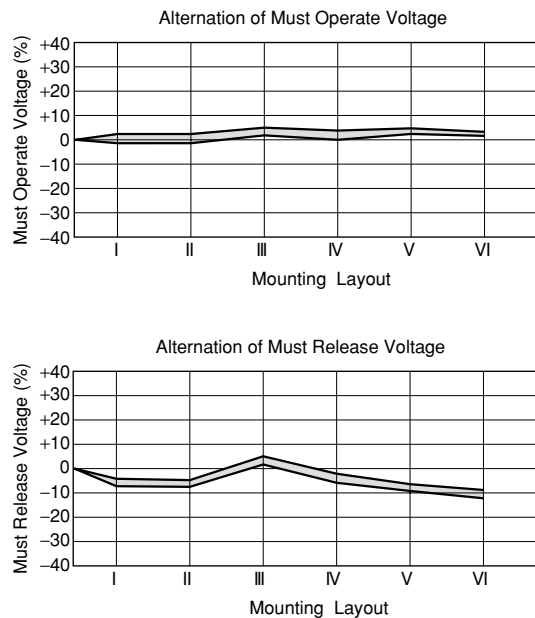

Figure 3.6 Magnetic Interference
This section describes changes in the operate voltage caused by mutual magnetic interference when several relays are closely mounted on a printed circuit board (PCB). Figure 3.6 (1) shows the distance among the relays mounted on the PCB. As shown, the pin pitch of each relay is 2.54 mm. Figure 3.6 (2) shows the relay that is subject to interference. In this figure, the hatched relay shown in the center of each relay arrangement is subject to interference, and the surrounding relays influence the center relay. The condition under which the center relay suffers interference and the surrounding relays affect the center relay differs depending on whether power is supplied to each relay. Figure 3.6 (3) shows the deviation in percent of the operate and release voltages of the center relays in Figure 3.6 (2).
(1) Mounting pitch (mm)
(2) Relay arrangement
(3) Deviation of must operate and must release voltages